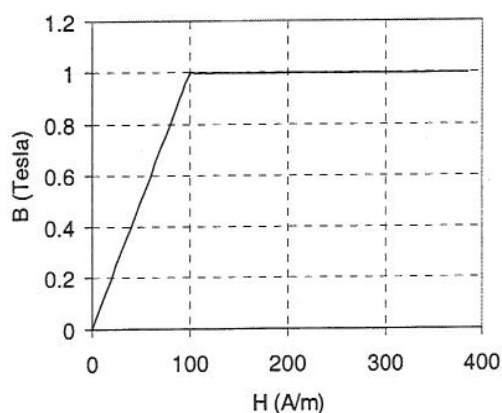

Figure 4.2
- b) Assume now that the core has a B - H characteristic as shown in Fig. 4.2, i.e. linear up to $H = 100 \text{ A/m}$, and saturated at $B = 1 \text{ T}$ for $H > 100 \text{ A/m}$. Calculate: